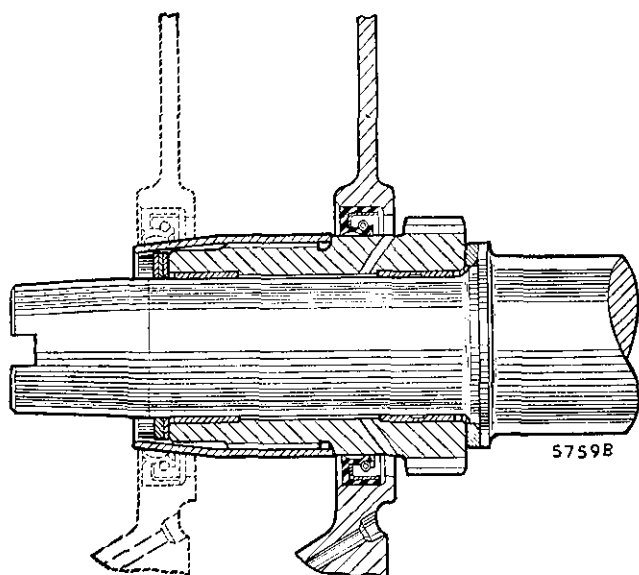

Fig. A.15
- (1) Remove the engine (Section A.13).
- (2) Remove the flywheel and clutch assembly (Section A.11).
- (3) Remove the screws and nuts securing the housing; note their positions for correct replacement.
- (4) When withdrawing the housing and to avoid damage to the oil seal use Service tool 18G 570, or 18G 1043 if a red silicon rubber oil seal is fitted (Fig. A.15).
- (5) Extract the circlip and remove the primary gear.